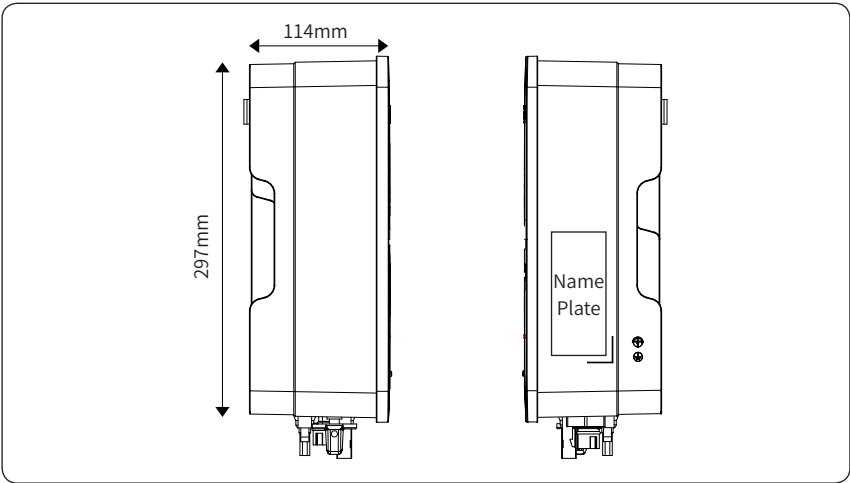

Figure 3- 3 Side view
3.2.3 Inverter bottom view, as shown in Figure 3- 4: